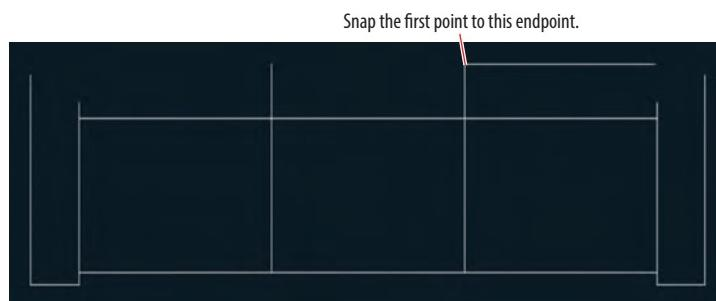

FIGURE 9.3 Drawing a straight-backed sofa
7. Click the Line tool on the Draw panel. Snap the first point of the line to the endpoint shown in Figure 9.3. Move the cursor to the right, and click an arbitrary second point. Press Esc to end the LINE command.